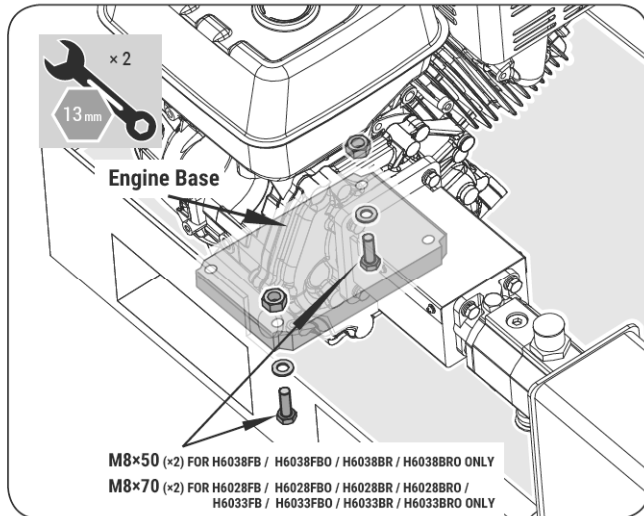

Figure 2a
1. Remove the engine from the pallet. (Remove the two bolts and nuts, See *Figure 2a.*)